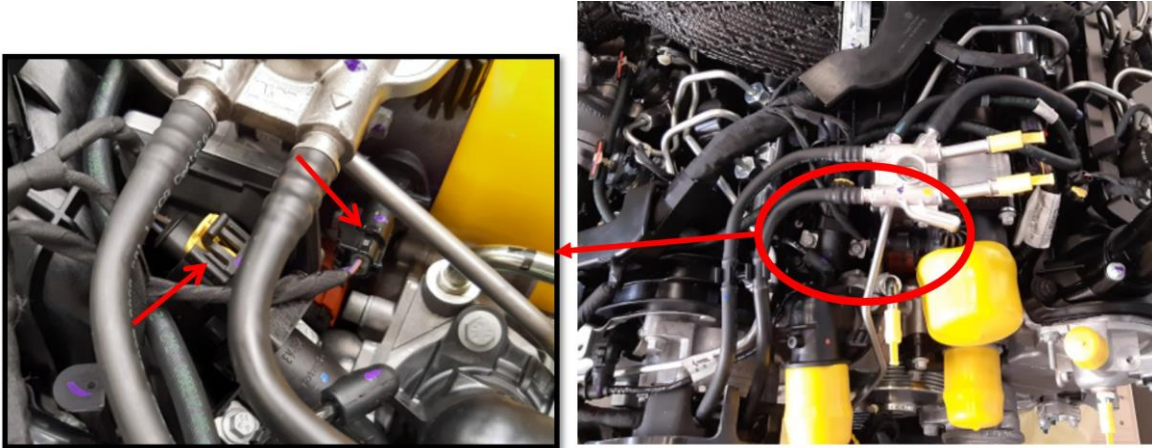

Figure 6
9. Connect the EGR Cooler, and Throttle Body Temperature sensor electrical connectors. Please see (Figure 6).